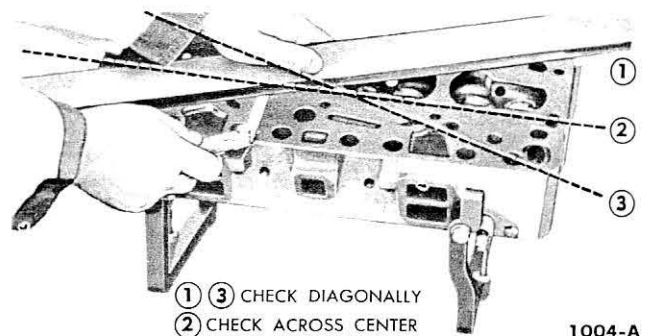

Fig. 4—Cylinder Head Flatness—Typical
**Cylinder Head Flatness.** Check the flatness of the cylinder head gasket surface (Fig. 4). Specifications for